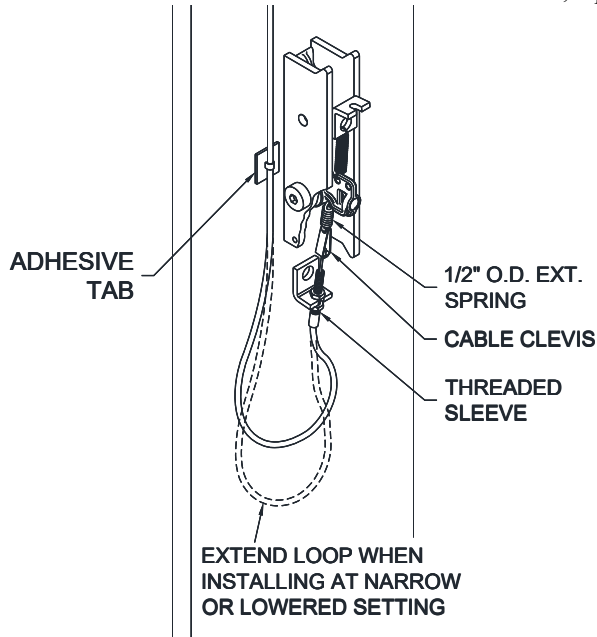

Fig. 18 – Idler Column Lock Release Assembly
- 44) Attach adhesive-backed tab to idler column left of the lock assembly, **Fig. 18**. Route lock release cable down left side of idler column and secure with loosely fit wire tie to adhesive-backed tab. Attach cable clevis to 1/2" O.D. extension spring.
- 45) Insert threaded sleeve portion of cable assembly in slot located on tab below lock pawl, **Fig. 18**. With one jam nut located on each side of tab, adjust the threaded sleeve to begin to pull tension on the 1/2" O.D. spring. Snug jam nuts by hand.